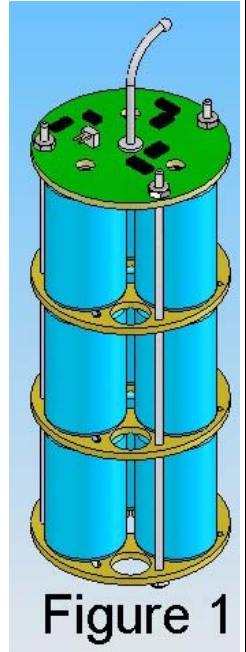

Figure 1
The battery pack consists of a top and bottom plate sandwiching three layers of three batteries each stacked with a middle plate between each layer (see figure 1). The rods and nuts hold the whole assembly together.
- c. Settle the batteries on the plate. (see figure 1)